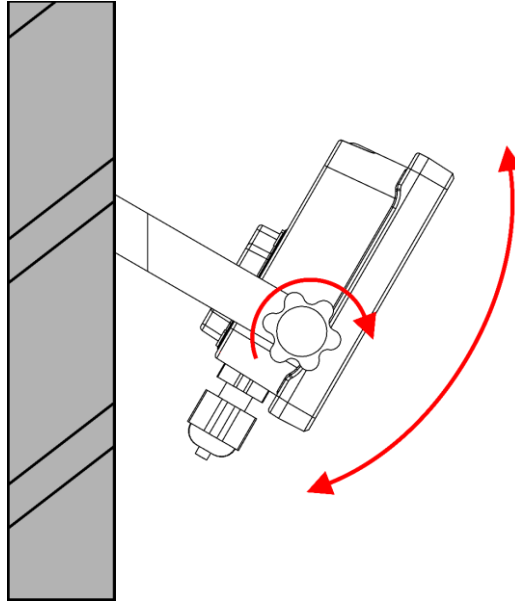

Fig. 14
- 01) Turn the **adjustment screws (01)** counterclockwise to release them.
- 02) Tilt the device to the desired angle (Fig. 14).
- 03) Turn the **adjustment screws (01)** clockwise to tighten them. Make sure that the device cannot move freely.